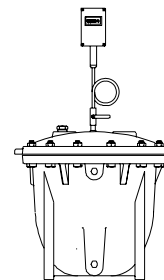

Figure 5
If a cycle counter is required the installation will be the same for all model pumping traps. There is a 1/2" connection on the cap of the pumping traps where the cycle counter may be mounted, (1) 1/2" x 1/8" reducer coupling and (1) 1/8" x close nipple are required. It is very important that a steel siphon or "pig tail" be used prior to the cycle counter to avoid any damage to the cycle counter. See Figure 5 below.
Connect the motive force piping (steam, air or inert gas) to the inlet connection on the pump cap. Proper piping and trapping of the motive supply line must include a strainer, check valve, properly sized drip leg with mud pocket, and drip trap. The drip trap discharge line should be connected to the reservoir piping or vented receiver when practical. See figure 5 and 6 on page 7. It is recommended to install a union near the motive inlet (valve seat) to provide quick access to the externally removable seat.
FIGURE 5: Condensate drainage to vented receiver with overhead condensate return. Use of the Pumping Trap, combined with proper sizing of the steam trap and receiver assures successful coil drainage under low pressure conditions.